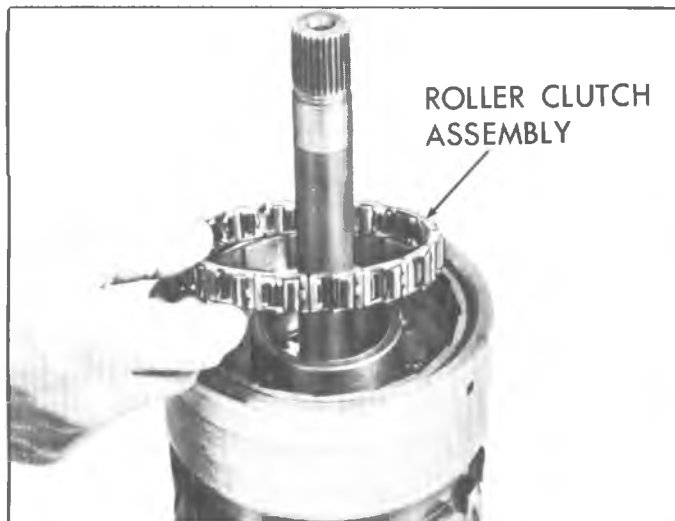

Fig. 124T--Installing Roller Clutch to Reaction Carrier
18. Install roller clutch assembly (fig. 124T) into reaction carrier.